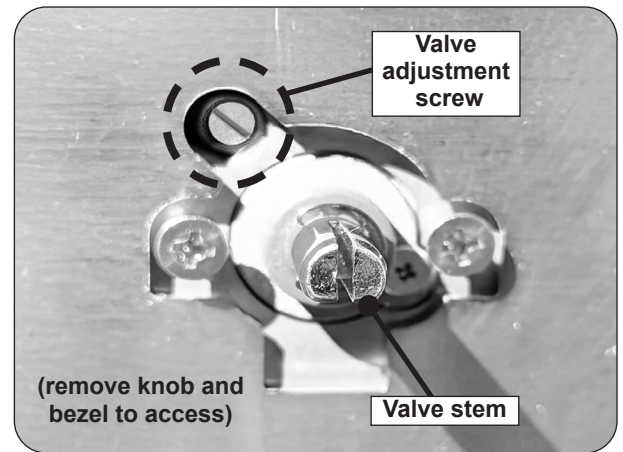

Fig. 45-1 Valve adjustment screw location
6. Locate the FLATHEAD adjustment screw located on the upper left of the valve stem (see Fig. 45-1).